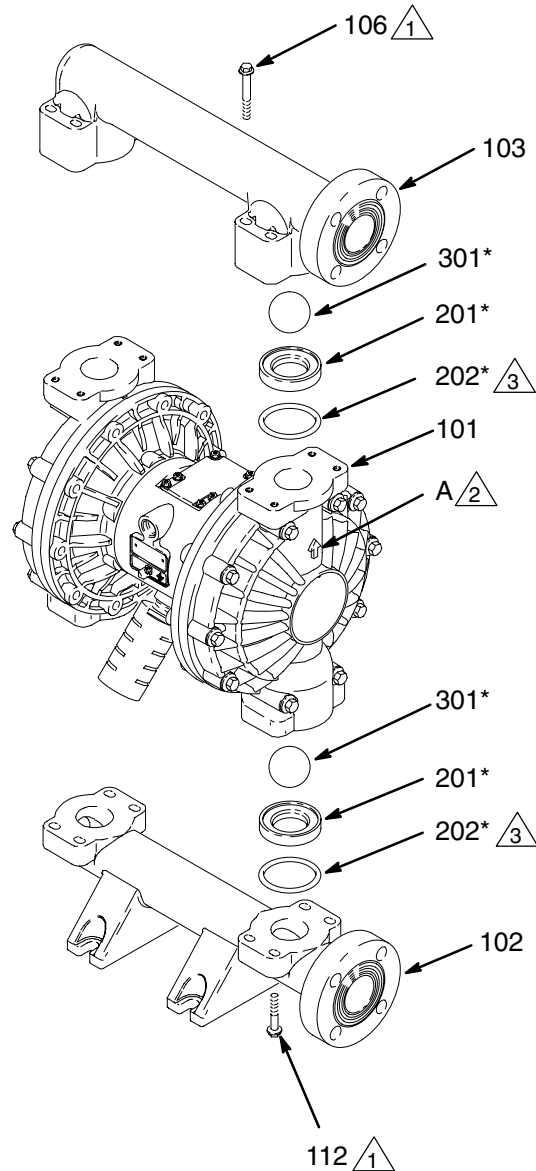

Fig. 11
3. Using a 10 mm socket wrench, remove the eight bolts (106) holding the outlet manifold (103) to the fluid covers (101). See Fig. 11.
4. Remove the seats (201), balls (301), and o-rings (202) from the manifold.
**NOTE:** Some models do not use o-rings (202).
5. Turn the pump over and remove the bolts (112) and inlet manifold (102). Remove the seats (201), balls (301), and o-rings (202) from the fluid covers (101).
2. Reassemble in the reverse order, following all notes in Fig. 11. Be sure the ball checks are assembled **exactly** as shown. The arrows (A) on the fluid covers (101) **must** point toward the outlet manifold (103).
- 2  Arrow (A) must point toward outlet manifold (103).